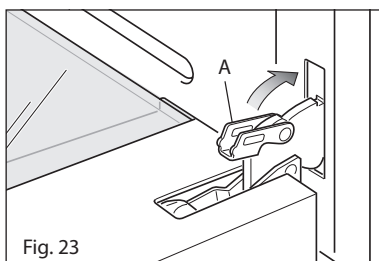

Fig. 23
– Unlock the oven door by opening it completely and closing the lever **A** on the left and right hinges (Fig. 23).